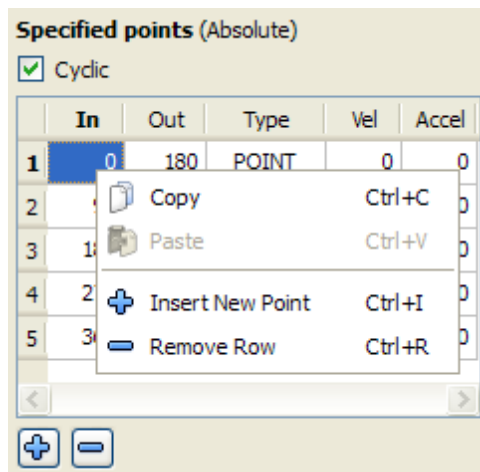

Figure 9-8: Cam Table Contextual Menu
- Use the menu in the cam table (shown in "Figure 9-8: Cam Table Contextual Menu " on page 401)